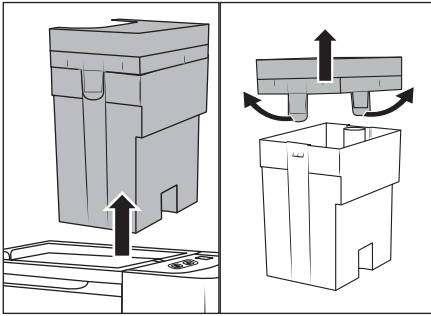

Fig. 7
- ◆ Hold the dirty water tank 7 by the handle of the lid 3 and pull it upwards out of the appliance (see Fig. 7).
- ◆ Pull the two retaining tabs slightly outwards and remove the lid **3** (see Fig. 7).